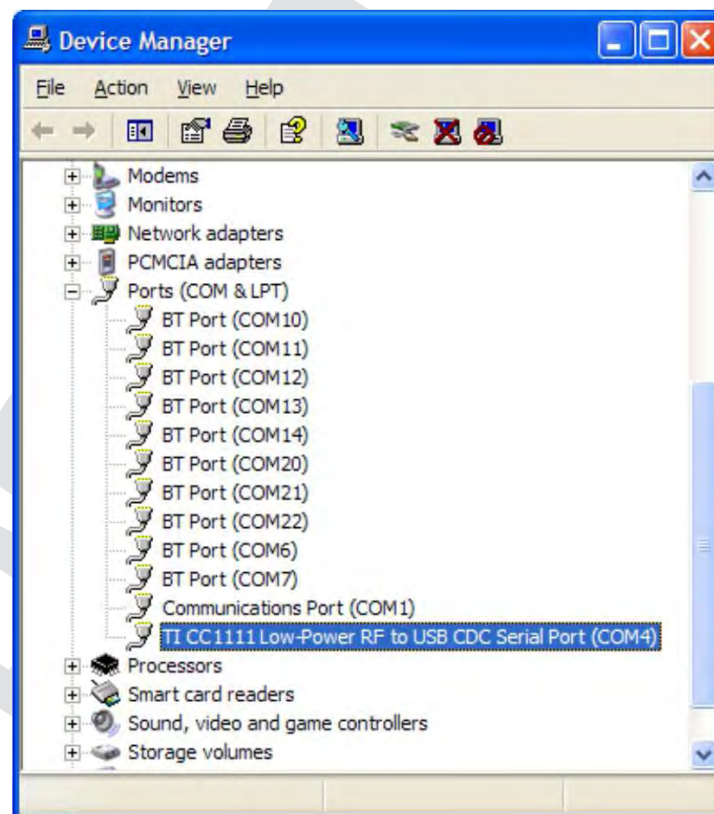

Figure B-7. Access Point in Windows Device Manager
8. The Windows Device Manager lists the device *TI CC1111 Low-Power RF to USB CDC Serial Port (COMx)* in *Ports (COM & LPT)* (see Figure B-7).